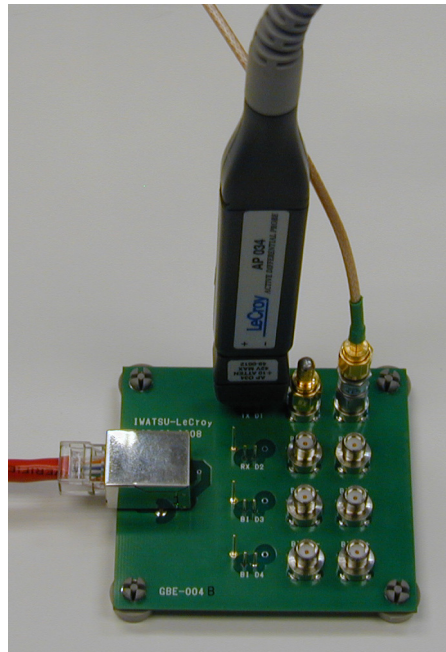

Figure 29: Connections for direct probing a 1000Base-T Mode 1 test. The power splitters are supplied with the TF-ENET fixture set.
2. Attach terminators (supplied with the TF-ENET fixture) to port 1 of each splitter and connect the differential outputs of the disturbing signal generator to port 2 of the splitters, as shown in Figure 29.